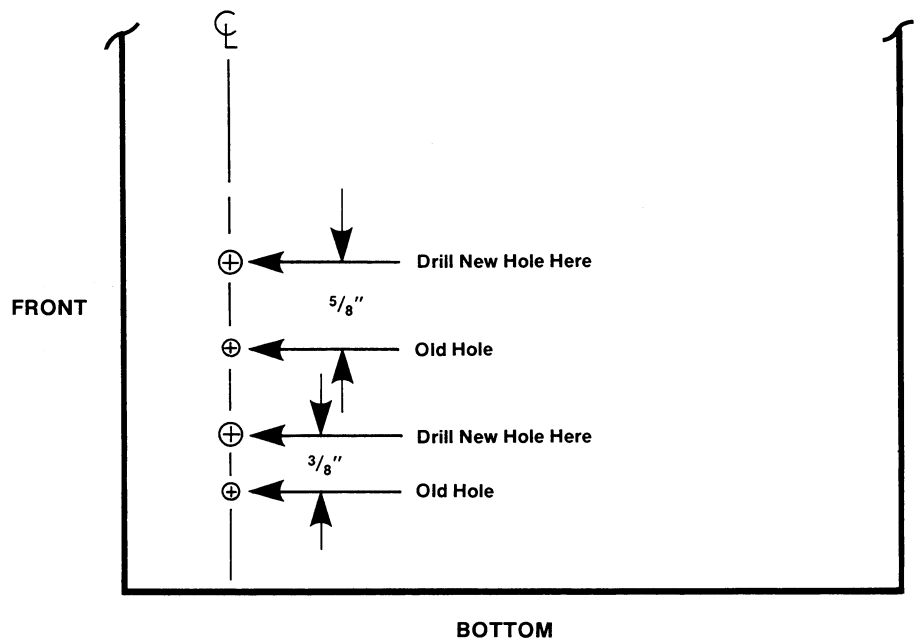
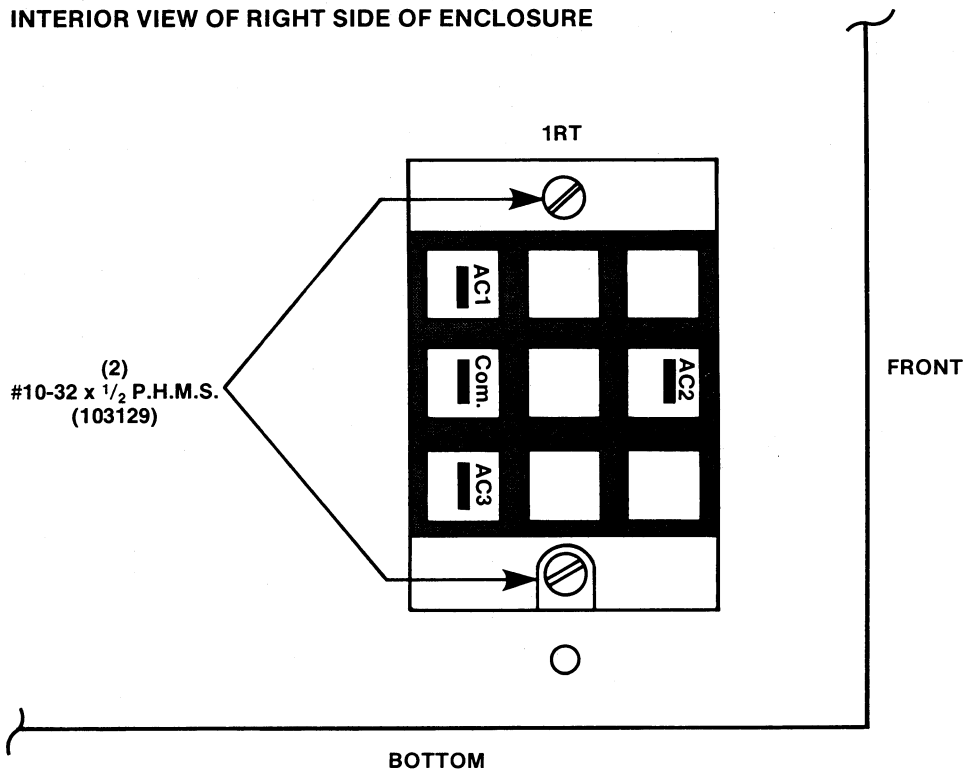
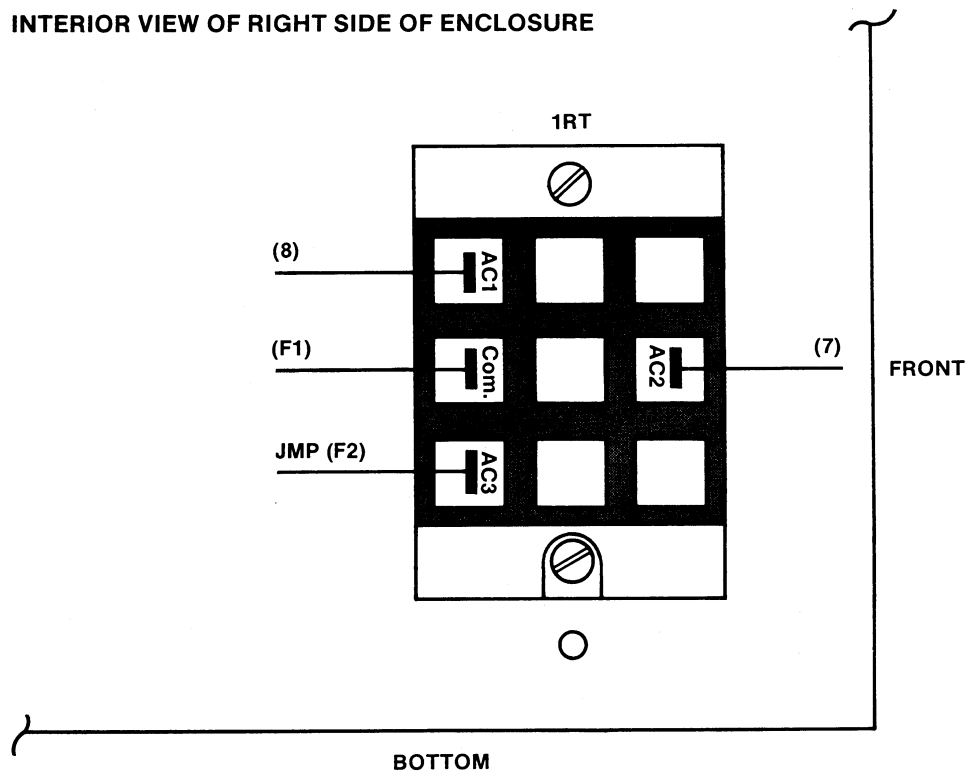

Figure 2
Figure 3
Figure 4
4. Remove all (4) wires after labeling.
7. Mark the new mounting hole pattern for the new rectifier (P/N 101024) per Figure 2. (Note that the new holes are on the same center line.)
8. Drill (2) new holes with a #21 drill and thread with a #10-32 NF tap. Remove all burrs from the newly drilled holes and do not let chips drop into the module or other devices.
install per Figure 3 with (2) #10-32 x 1/2" P.H.M.S. (P/N 103129). Wipe away all excess heat transfer compound.
10. Clip existing terminal connectors from the (4) bridge wires marked (1), (F1), (7), (8). (**NOTE:** When cutting off connectors, leave as much wire as possible.) Strip wires 1/4" back. Attach (1) 1/4" disconnect terminal (P/N 103505) to each wire and crimp securely.
12. Reconnect wires to the new rectifier per Figure 4.